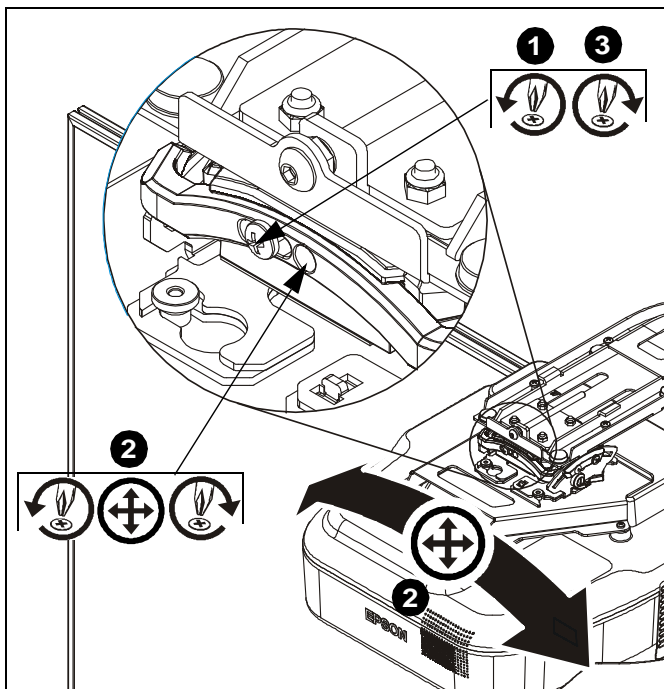

Figure 13
1. Loosen ROLL adjustment locking screw using a #2 Phillips screwdriver. (See Figure 13)